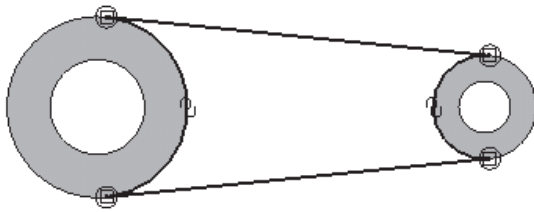

Figure 5-69 Profile for the second feature
3. Draw tangent lines on these circles and then trim the unwanted portion of the profile. Because you used the projected entities, you do not need to dimension the profile. The profile for the second feature is shown in Figure 5-69.